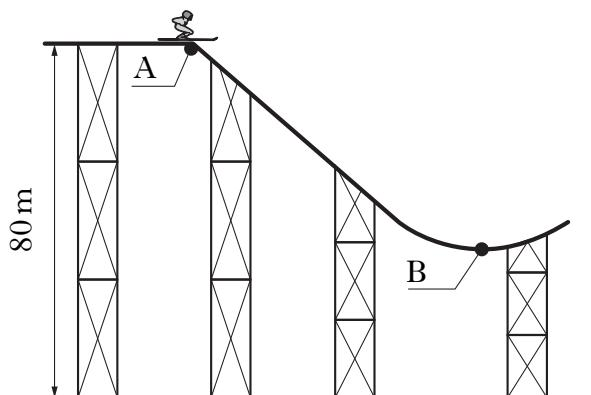

Figure Q3
3. A ski jumper and take-off ramp is shown in Figure Q3.